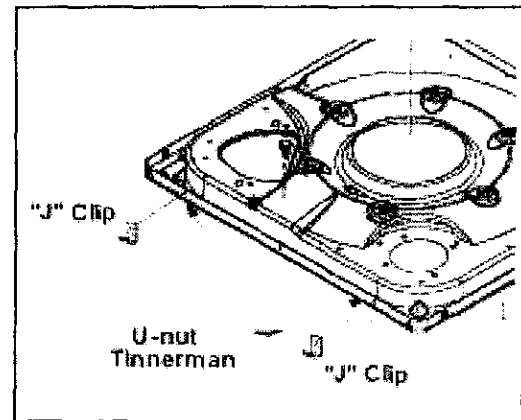

Figure 3
5. Remove the two screws securing the "J" clips to the baseframe. *(Figure 3)*